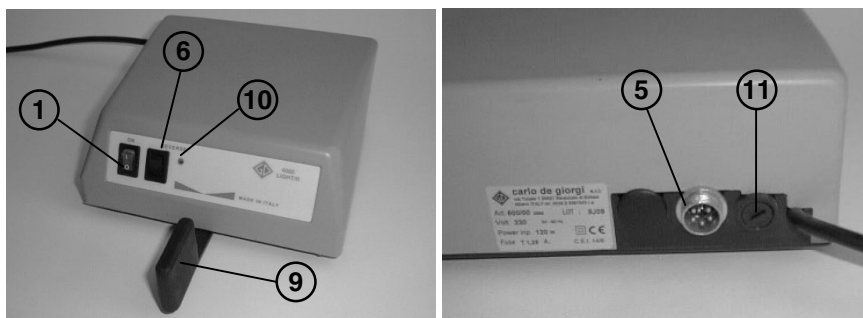

Fig. 2 (floor model)
With reference to Figure 1, for bench top models, and Figure 2 for floor types, after positioning the appliance and checking that the main power switch (1) is set to OFF, make the following connections:
- footpedal (2) to connector (3) on the rear of the appliance (bench top models only)
- micromotor complete with handpiece (4) to connector (5) on the front of the appliance (on the rear in the case of floor versions – see Fig. 2)
\* for bench top models refer to Fig. 1 – for floor models refer to Fig. 2\*